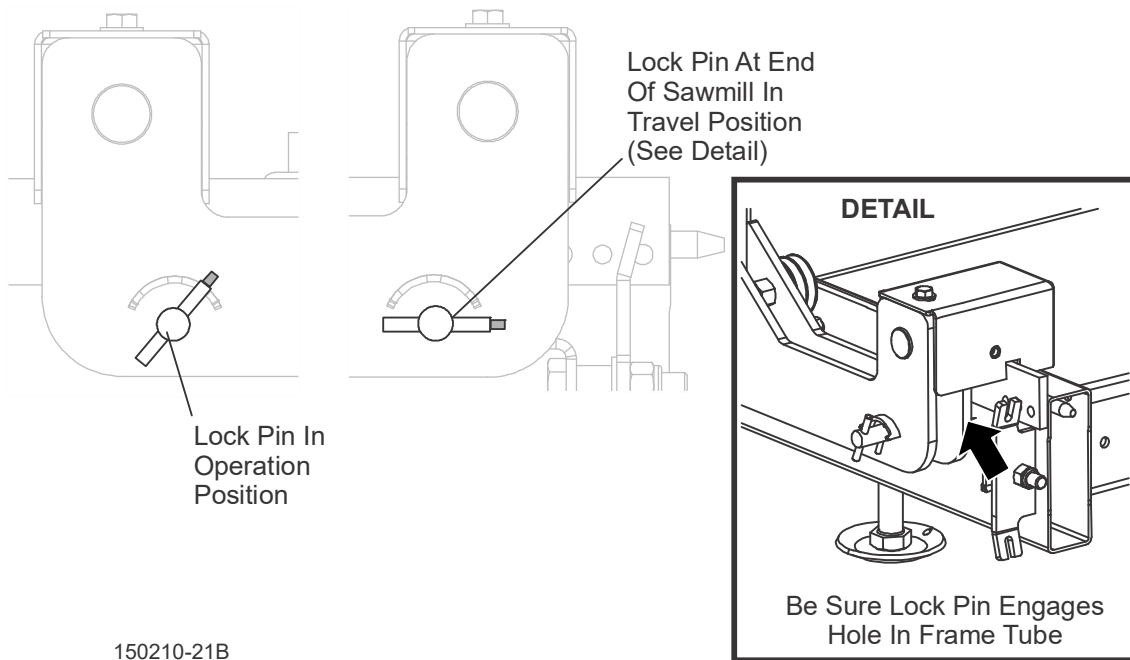

FIG. 6-11
1. Remove the leg assemblies or adjust them above the bottom of the bed frame. See FIGs. 6-11 and 6-12. See Section 8.5 for a detailed description of carriage lock pin operation.